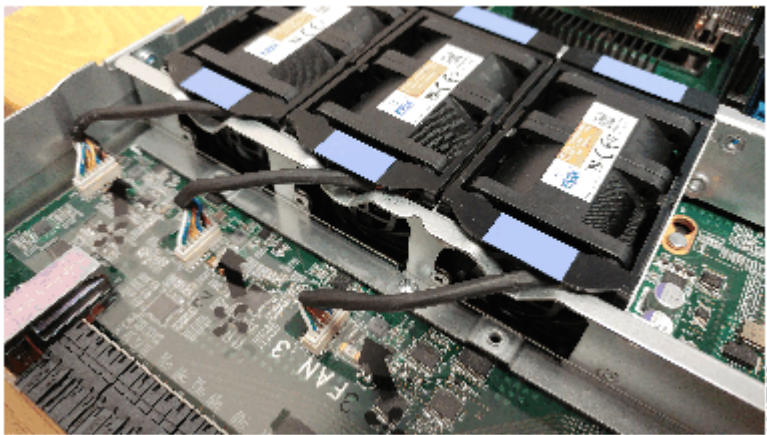

Figure 47. Aligning the cable connector
7. Install the replacement fan module into the vacant fan slot. The cable must face toward the canister front. Be careful to ensure the connecting cable passes over the air dam at the V-shaped indent, as shown in Figure 47 on page 86. Ensure that the cable is not caught under the fan module.